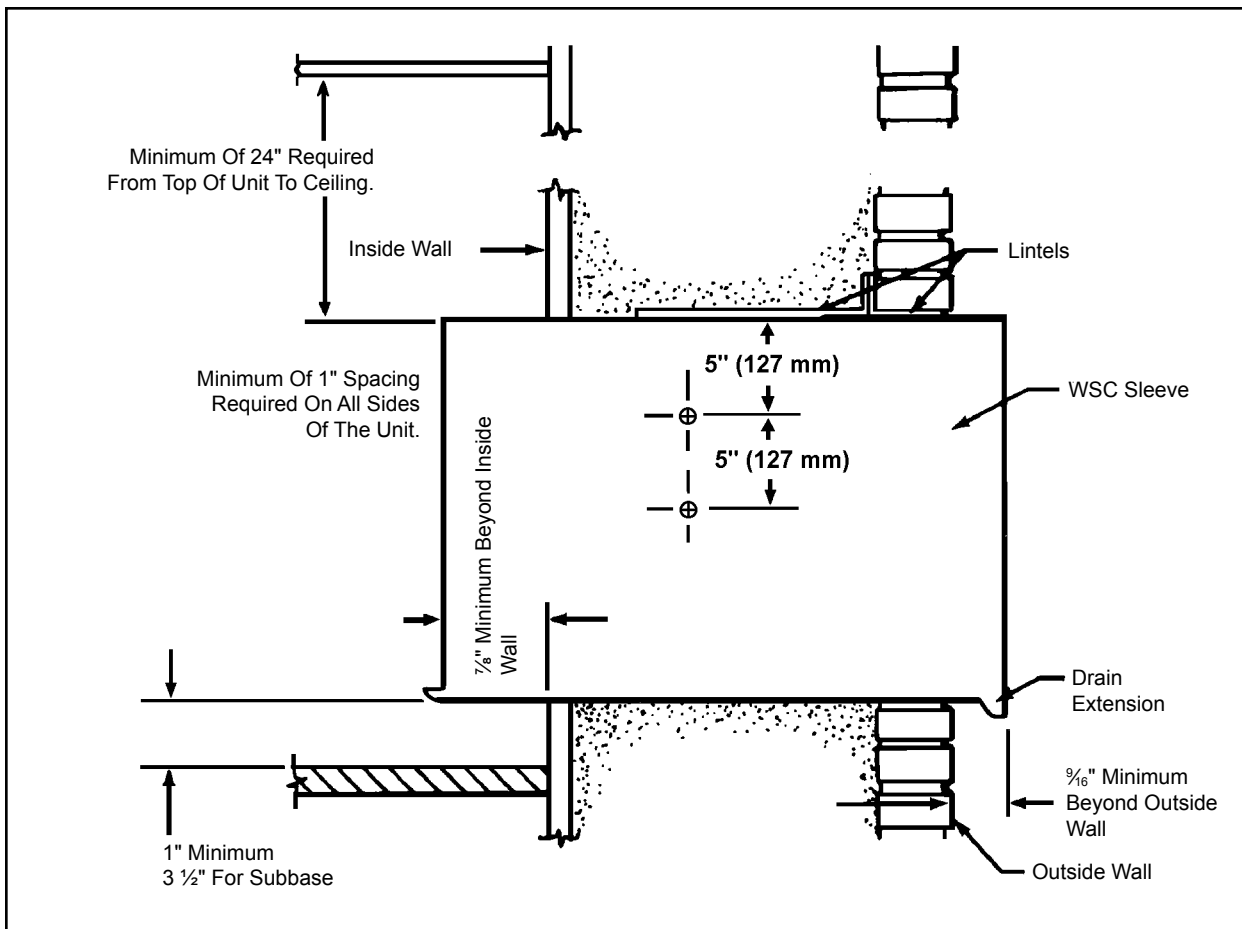

Figure 7
- STEP 1** The WSC SLEEVE should be positioned so that the DRAIN EXTENSION extends a minimum of $\frac{1}{8}$ " beyond the OUTSIDE WALL (See Figure 7).
- STEP 1** After unpacking the WSC SLEEVE from the carton, remove the corrugated FRONT PANEL. Place the WSC SLEEVE in the wall opening following the instructions given in the INSTALLATION REQUIREMENTS. Attach the SLEEVE to the INSIDE WALL by driving two #12A x 2" screws in each side of the SLEEVE (see Figure 7). Shim at the top of the SLEEVE, midway between the sides. Drive one #12A x 2" screw in the top of the sleeve, close to the shim. Install screws from inside the SLEEVE. If the wall opening is not framed with wood, use expansion anchor bolts or molly (toggle) bolts (not provided).